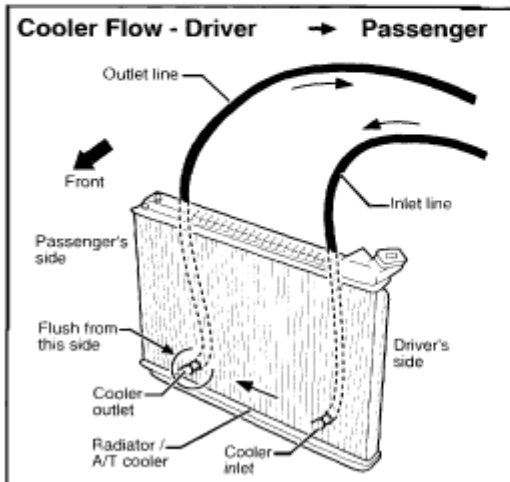

Figure 1A
| 1997 and later | QX4 | Driver Side | Passenger Side | see Figure 1A |
| 2003 and later | FX35 (4WD) | Driver Side | Passenger Side | see Figure 1A |
| 2003 and later | FX45 (All) | Driver Side | Passenger Side | see Figure 1A |
| 2003 and later | M45 | Driver Side | Passenger Side | see Figure 1A |
| 2002 and later | Q45 (F50) | Driver Side | Passenger Side | see Figure 1A |
* **NOTE:** Always flush coolers from the Cooler Outlet Side (see Figures 1A, 1B, 2A, and 2B for reference).